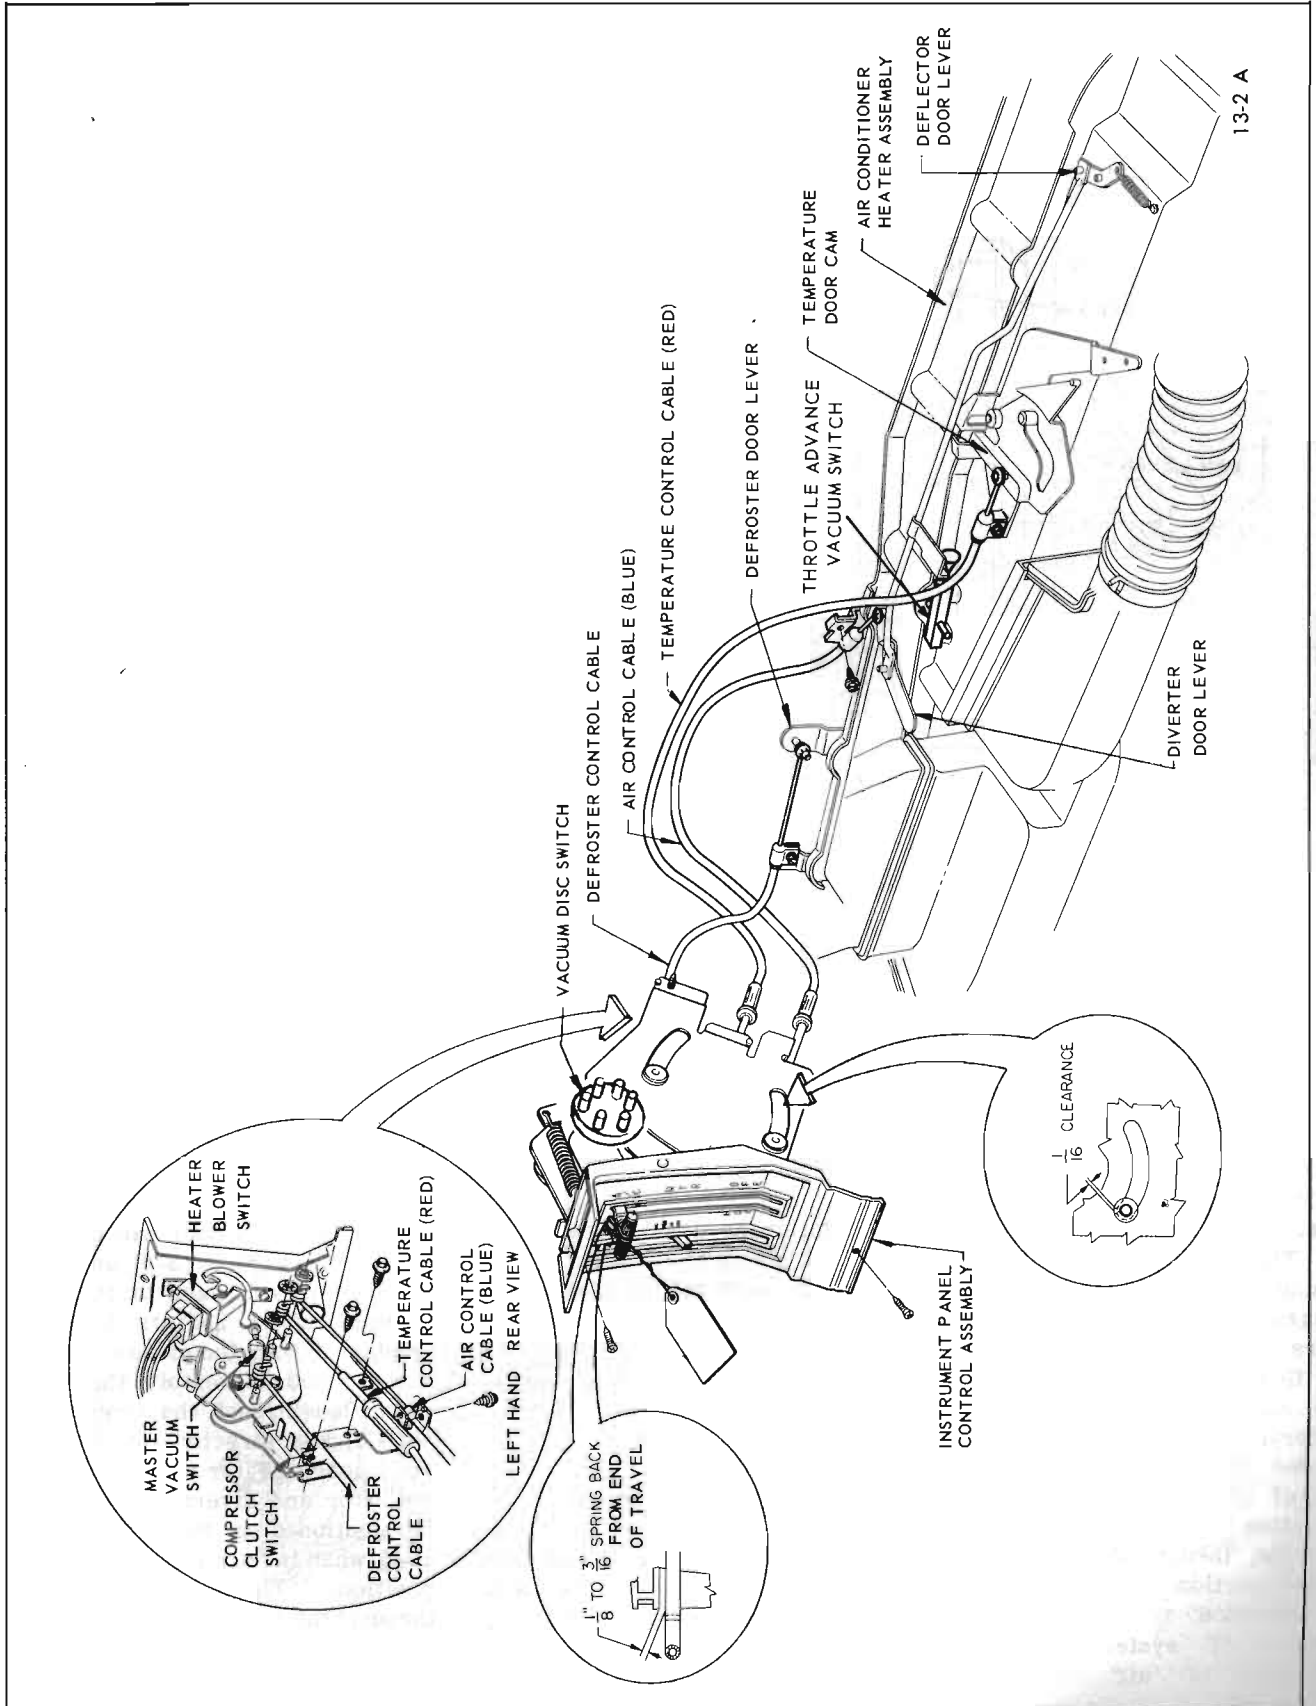

Figure 13-2—Control Wire Installation - 43-44000 Series
To adjust, position air control lever in A/C position and rotate the control wire adjuster nut until: (1) approximately 1/8 to 3/16 inch control lever spring-back is obtained when the air control lever is in A/C position, (2) approximately 1/16 inch clearance exists between surface of cable pin and edge of slot in instrument panel control assembly (see Figure 13-2).
To adjust master switch (see Figure 13-2) on instrument panel control assembly proceed as follows:
To adjust the compressor clutch switch located on the instrument panel control assembly (see Figure 13-2) proceed as follows: